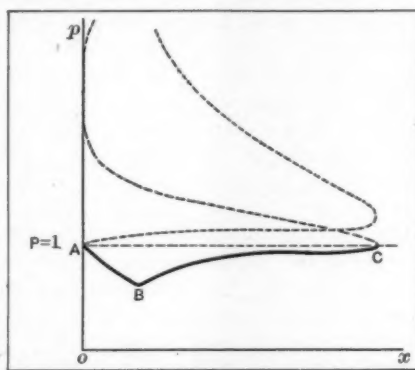

Fig. 3—Effect produced by the late opening of the intake valve: The pressure drops rapidly from A to B.
**INDUCTION.**—When the curve A B C (Fig. 2) falls throughout its entire length considerably below the line  $P = 1$  without showing any angularities or inflexions one can presume that the motor is being badly nourished, probably due to the insufficient lift of the intake valves or their having too small a diameter. The induction curve could present the form indicated in Fig. 3. That would show that the induction valve opened too late; the depression in the cyl-